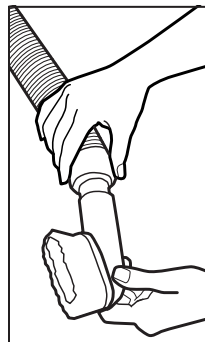
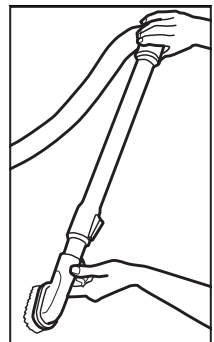

Fig. 4
Fig. 5
2. Attach any of the on-board tools to the end of the wand or directly onto the house cuff (Fig. 4) and (Fig. 5).